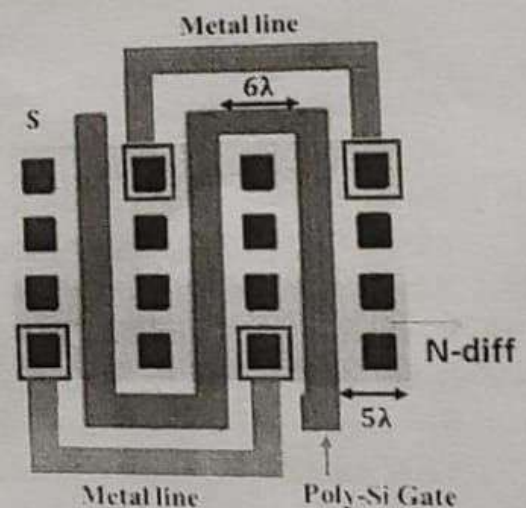

Fig. 1
Q1. A) A three-finger transistor with (W/L) = 20 is given in Fig. 1
- Mark Drain and Source junctions in Fig. 1
- Now, calculate the Drain junction to bulk capacitance for Fig. 1. Ignore the overlap capacitance.